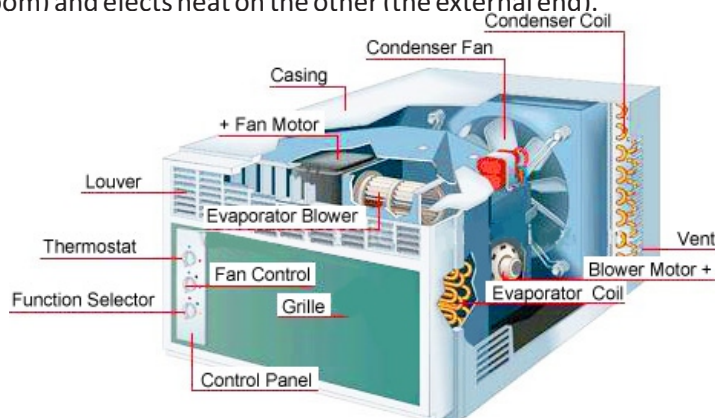

Fig. 2.7.1 Window Air-Conditioning Unit
1. Window Air conditioner (Refer to Figure 2.7.1)